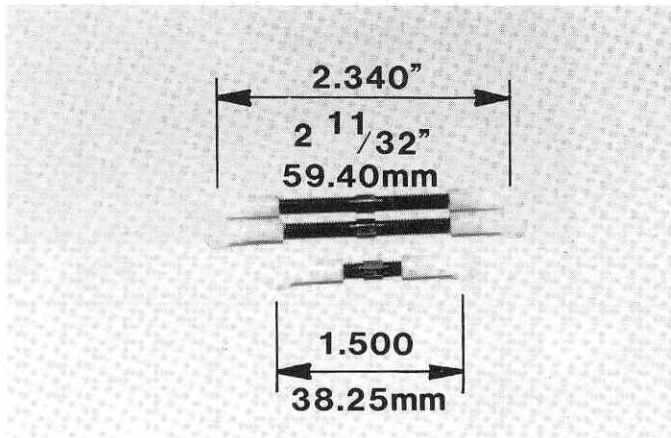

Fig. 23
- Fig. 23** Take the two long and one short turnbuckles and screw on the six plastic ball cups to the lengths shown.